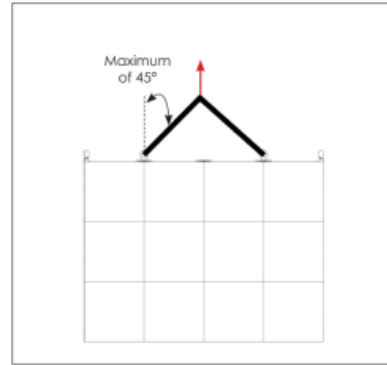

Figure 3: Lift with Chains
- Use chains, cables, or straps with sufficient weight capacity, accounting for increased loads from the rigging angle. Refer to Figure 3 and Section Sizes & Weight Estimates (p.1).
- Lift at a maximum angle of 45° from vertical. Refer to Figure 3.